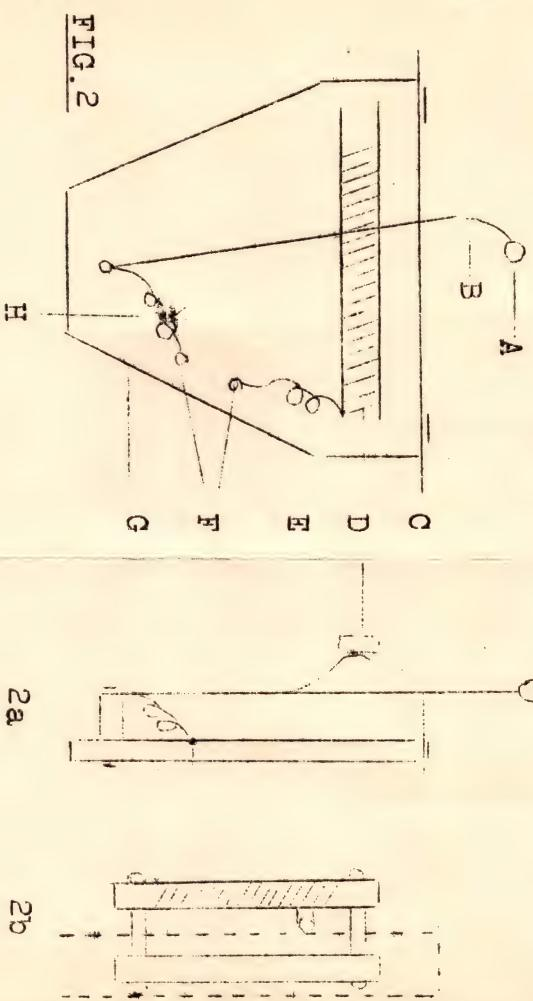

FIG.2
Fig. 2 is the controller. (2A and elevation & 2B top view). A "throttle" type being preferred to knob twisting. "G" is a piece of  $\frac{3}{8}$ " plywood about 8" x 8" to which is pivoted a length of  $\frac{3}{8}$ " brass rod (B) with a wooden knob. (A). "H" is a pigtail connection to a terminal. "C" is a strip of brass 1" x 1/16" x 10" for mounting purposes to stop the arm from wobbling and thus forming a slot.